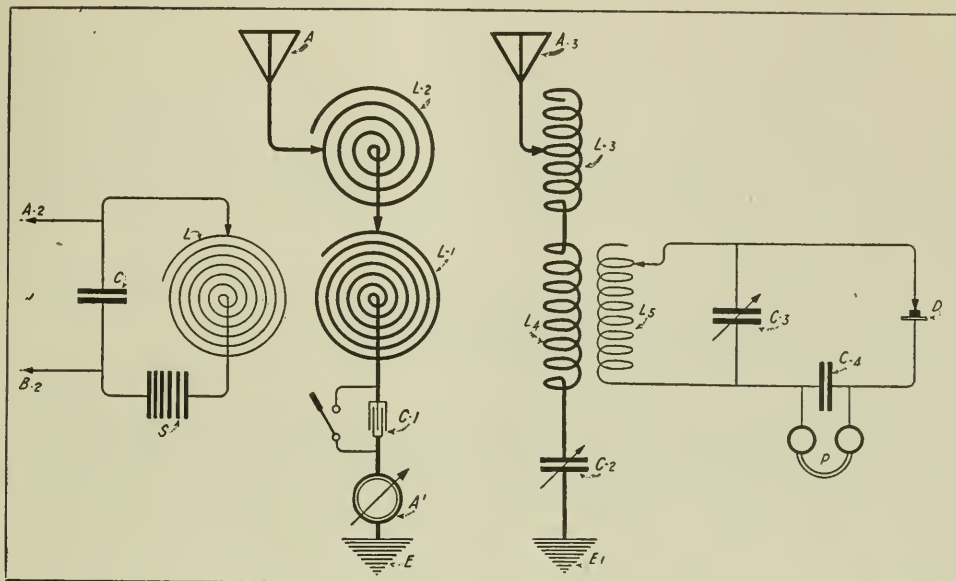

Figure 120
(1) The diagram of figure 120 indicates the fundamental circuits of Marconi's famous four circuit tuning patent.
(2) The closed and open oscillation circuits of the transmitter are carefully tuned to electrical resonance. Resonance adjustments may be found by a hot wire ammeter shown at A¹. The circuits may be tuned to a definite wave length by means of a wavemeter. Similarly, the open and closed circuits of the receiving apparatus must be tuned to the frequency of the transmitter, that is, circuits A¹, L-3, L-4, C-2, E, must be tuned to circuit L-5, C-3.
(3) The tuning appliances shown in the diagram of figure 120 are in general all that are required in modern wireless systems employing damped oscillations.